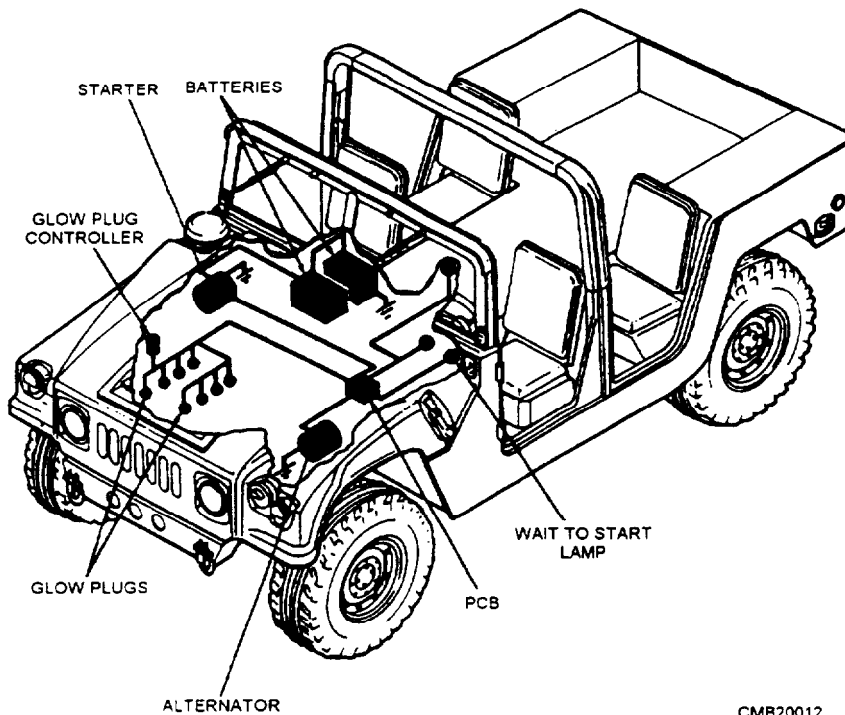

Figure 1-12.—Typical automotive circuit.
**Automotive circuits** (fig. 1-12). The body and chassis of an automobile are made of steel. This feature is used to eliminate one of the wires from all of the automobile circuits. By attaching one of the battery terminals to the body and chassis, you can connect any electrical component by hooking up one side, by wire, to the car battery and the other side to the body. This design of connecting one side of the battery to the